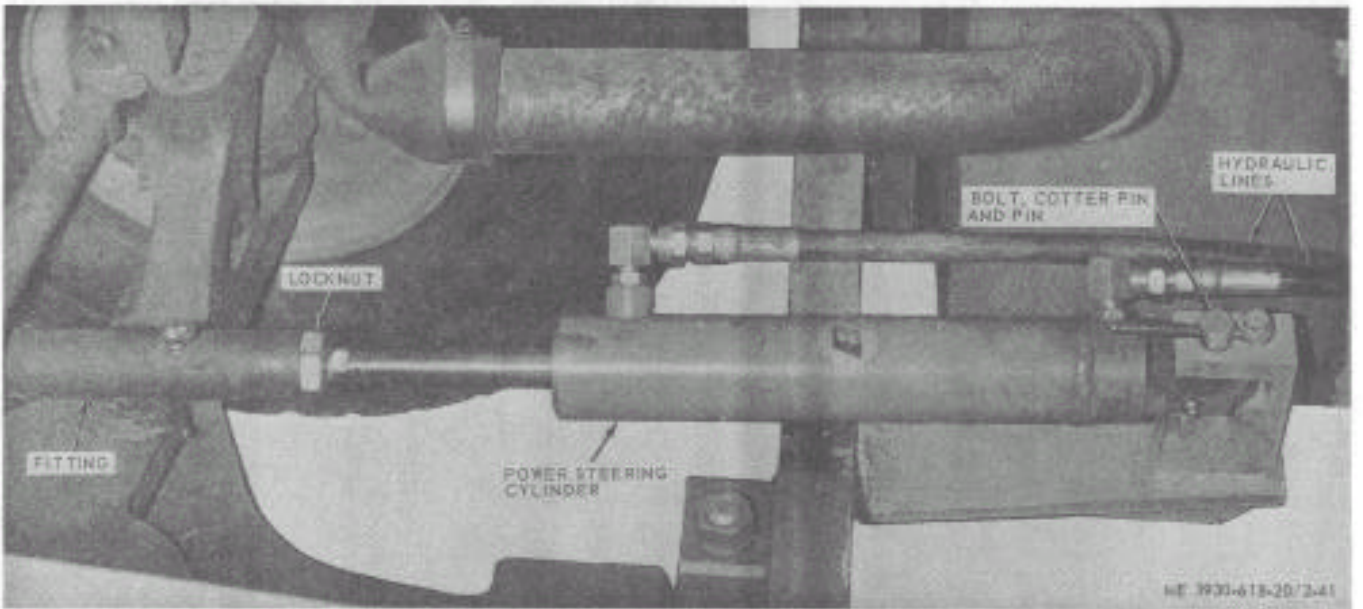

Figure 2-41. Power steering cylinder, installed view.
b. *Removal.* Refer to figure 2-41 and remove the power steering cylinder.
(1) Disconnect hydraulic lines at the cylinder.